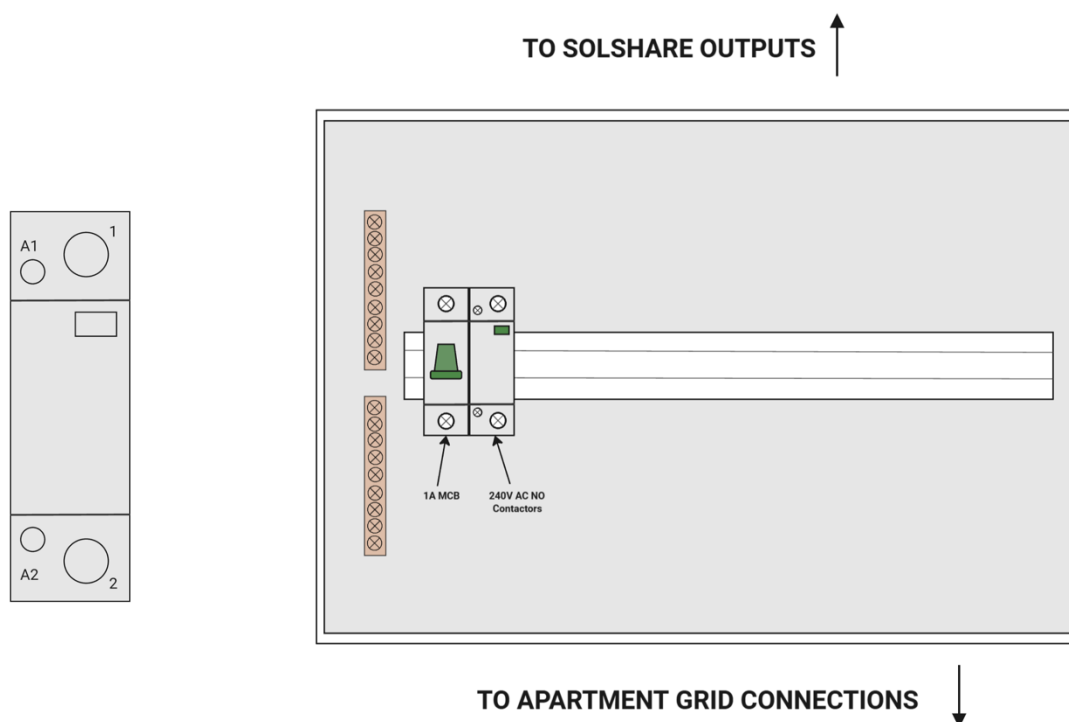

Figure 2. Contactor and MCB arrangement
- Refer to Figure 2 below for more information.